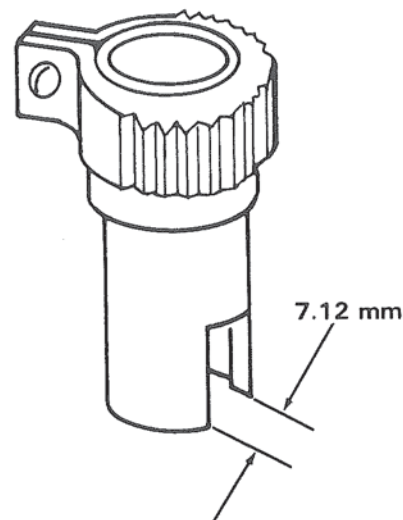

Figure 36. Checking Control Sleeve.
4. Measure width of slot in control sleeve. Replace if more than 7.12 mm. (.280 in.). Figure 36.